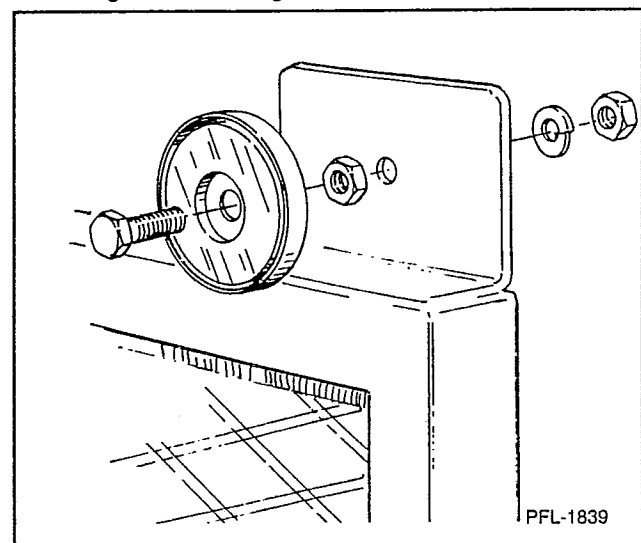

Figure 6
14. Install magnet. (A magnet belongs on each gate.) Put bolt through magnet. Turn inside nut (closest to magnet) until 1/16" clearance is obtained between nut and magnet. Take magnet with bolt and nut and put the protruding end of bolt through mounting hole. Take the other nut and lockwasher and mount the magnet. Hold the bolt and tighten mounting nut (outside nut). The 1/16" clearance is necessary to allow for variations of magnets striking the area. If given clearance is not included, magnet will not hold gate closed and may result in a broken magnet. See Figure 6.